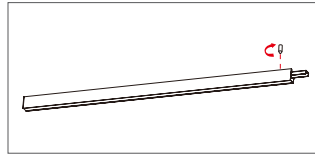

FIGURE 2-1
- I. For Start-of-Run, remove the end cap without the power cord. Insert the joiner and secure with screw. (Figure 2-1)